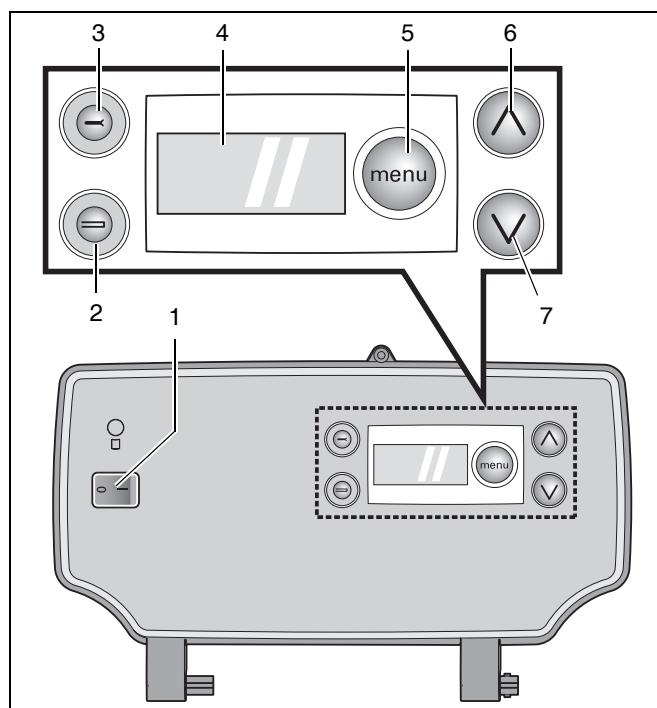

fig. 1 DBA
1. Mains switch (see fig. 1)
2. Reset button "B" (see fig. 1)
3. Service Button "A" (see fig. 1)
- item 1: mains switch
- item 2: "reset" button
- item 3: "service" button
- item 4: display
- item 5: "menu" button
- item 6: adjusting arrow up
- item 7: adjusting arrow down
4. Display (see fig. 1)
5. Menu button "E" (see fig. 1)
6. and 7. Up "C" and Down "D" keys (see fig. 1)